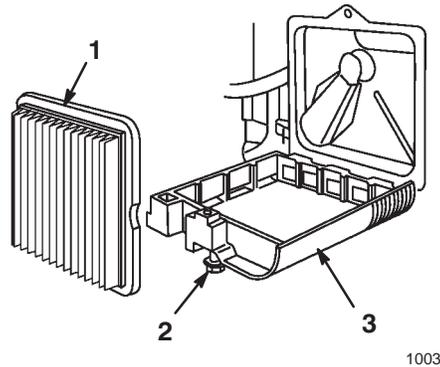

Figure 20
3. Loosen the screw that secures the air filter cover to the engine (Fig. 20).
4. Tilt the air cleaner cover down and clean the cover thoroughly (Fig. 20).
5. Remove and discard the paper air cleaner filter (Fig. 20).